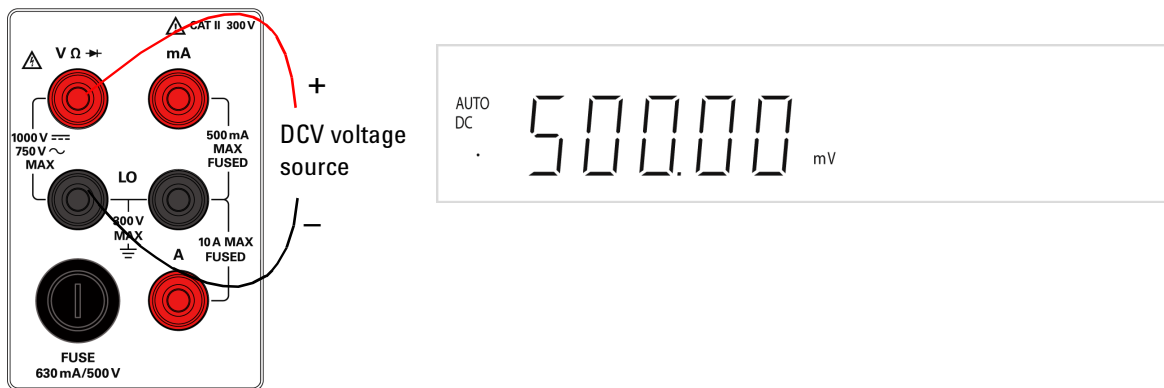

Figure 2-2 DCV terminal connection and display
- 2 Connect the red and black test leads to the respective input terminals as shown in Figure 2-2.